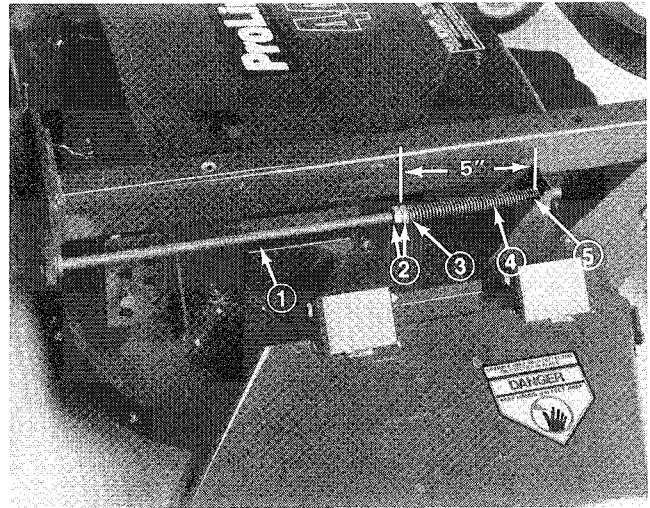

Figure 4
2. Thread (2) jam nuts onto each adjusting shaft (approximately 7 inches) (Fig. 4).
3. Slide a washer, spring and bushing onto each adjusting shaft. Bushing to be positioned so flange end is against spring (Fig. 4).
hole in carrier frame mounting tab. Small end of bushing to fit into hole in deck bracket (Fig. 4).
5. To tension belt, tighten front jam nut on each adjusting shaft until springs are compressed to a length of 5", measured between washer and bushing (Fig. 4). Secure rear jam nuts.